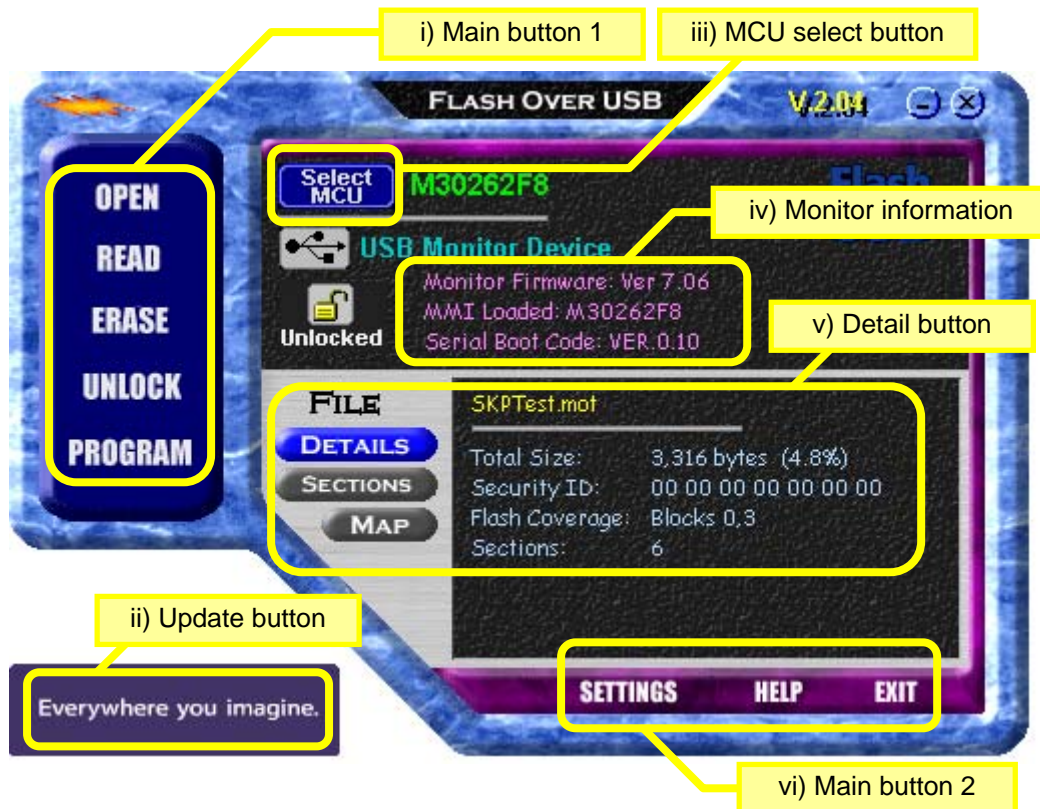

Figure 4-4 FoUSB main window
- 1) From the Start menu, choose Programs -- RENESAS-TOOLS – Flash-over-USB V.*.** -- FoUSB Programmer to start the FoUSB. When the FoUSB starts, the FoUSB main window shown in Figure 4-4 appears.